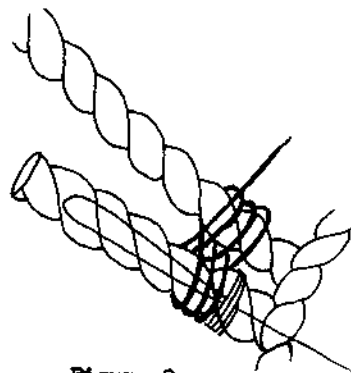
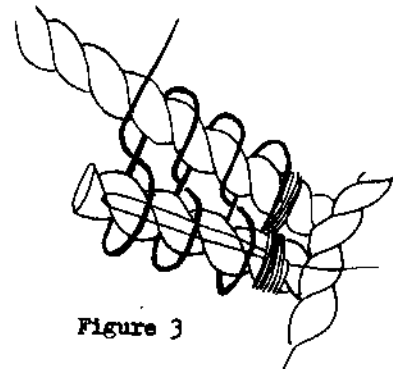
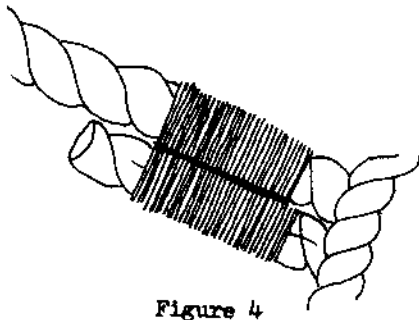

Figure 2
Figure 3
Figure 4
To get rigged in, first run the end with the buckle thru the carabiner allowing enough slack so that the end can go around your thigh. (To determine more closely what length is correct for you, measure the diameter of your thigh at your crotch and add 6".) Hold the carabiner and webbing in front of your crotch, see Fig. 1, then with your right or left hand reach from behind and thru your legs and grasp the buckle. Bring it around the back of your right or left thigh (not the buttocks) and thru the carabiner from behind, See Figure 2. With your other hand, reach around the other thigh,
thru your legs and grasp the other end and bring it around and thru the carabiner from behind, i.e., from close to the body outward, see Figure 3. Take this end and carry it around your back and just above the buttocks and then fasten in to the buckle and secure it with a single half-hitch, Fig. 4 and that's it.
5. After you've gotten it adjusted, you can sew on equipment loops, see Figure 4, clip in a couple minibiners and instead of derigging between multiple pits, just clip in your equipment into your seat sling.
The whipping takes about five minutes. Begin with a standard whip and progress to a figure 8 stitch to hold the two cords together. (Fig. 2) Then begin (Fig. 3) binding up a long series of lock stitches. Finish it off after many lock stitches like you would a standard whip.
are either free to move in and out (the released condition of the pin, as in Figure 3), or are immovably held out (the locked condition of the pin, as in Figure 1). The position of the balls is controlled by the position of a small diameter part of the rod in the center of the pin. When the releasing button is pushed, the attached central rod slides towards the ball end of the pin, placing its thin part between the balls, and allowing them to move. When the button is released, the spring in the pin handle pulls the central rod back towards the handle end of the pin, placing the full diameter section near the end of this rod between the balls, and forcing them out into the locked position. The quick-release pin mud problem occurs when a film of mud around the two balls prevents them from moving quite all the way out when the releasing button is released. If the clearance around the balls is too small to accommodate the thickness of the mud film, the spring in the handle cannot pull the central rod all the way back towards the handle, and the pin only partially locks, as in Figure 2. Note that the balls are on the taper to the thin part of the central rod in Fig.2, not safely on the uniformly thick end of the rod as in Fig. 1. A pin in this condition can be removed from its Gibbs without the releasing button being touched at all. As force is applied to such a pin, the hole in the Gibbs wedges the balls inwards, the balls wedge the central rod along so its
The symptom of a partially locked quick-release pin is a half-out releasing button as in Figure 2. Any pin in this condition may come out of its Gibbs. It's a good idea to get such a pin properly locked
To grind the pin, turn on the drill and press one ball against the edge of the rotating washer so the ball spins. Rapidly move the central rod back and forth a little around the position in Figure 2 by moving the releasing button (do not go as far as the positions in Figure 1 and 3), meanwhile moving the whole pin a bit relative to the washer and frequently rotating the releasing button (and thus the central rod). This usually needs both hands, and ensures that the grinding is spread around evenly, avoiding future trouble with flat spots on the ball, extra dents in the central rod, etc. Every several seconds, change to the other ball, and, as the grit wears down and allows the pin to lock normally, add more grinding compound. Be careful to apply the moving washer only to the balls, not to nearby metal. Removing metal from the outside of the pin does no good and may shorten pin life. It may also be worth holding the ball end of the pin a bit lower than the handle end to discourage migration of grit into the handle.
uniform positioning of the holes. The required number of rungs are threaded onto the two lengths of wire. Optimum rung spacing is 10 inches a bit of a drag. Rung spacing is made easier if a jig such as shown in Figure 2 is used.